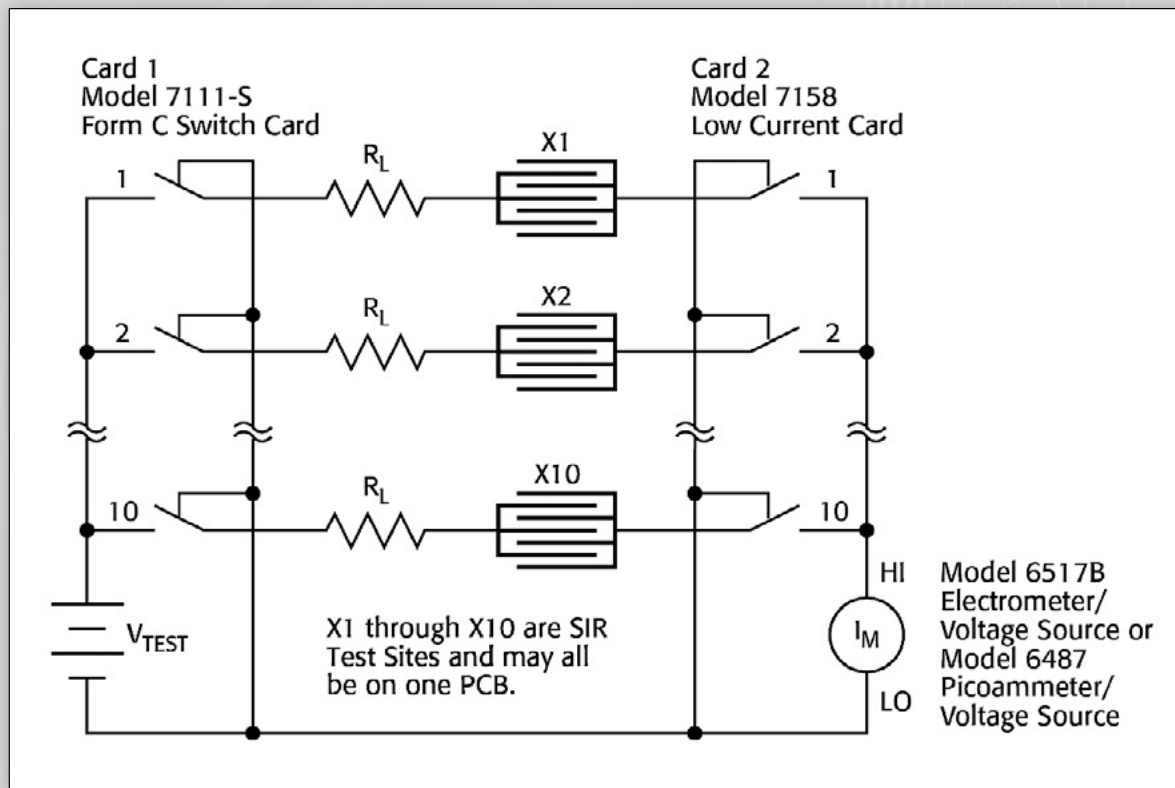

Figure 6. PCB insulation resistance measurement
- PCB surface insulation resistance** – Low surface insulation resistance (SIR) of a printed circuit board (PCB) can degrade the performance of the circuits on the board considerably. Factors that affect a board’s surface insulation resistance include the board material used, the presence of coatings such as solder masking or conformal coatings, board cleanliness, and relative humidity. The measured insulation resistance typically ranges from $10^7\Omega$ to $10^{16}\Omega$. **Figure 6** shows a test setup for measuring PCB surface resistances.